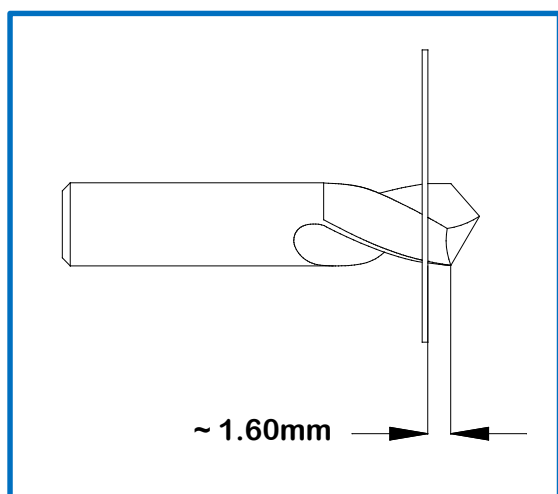

Figure 10: Needle alignment
- With the Swing Arm Assembly already mounted on the Sensor, and the Clamping Collar slightly loose, slide the Sensor forward or backward to position the Needle so that it will contact the tool/object, and at the same time verify that the Needle extends past the centerline of the tool/object as shown in Figure 10.